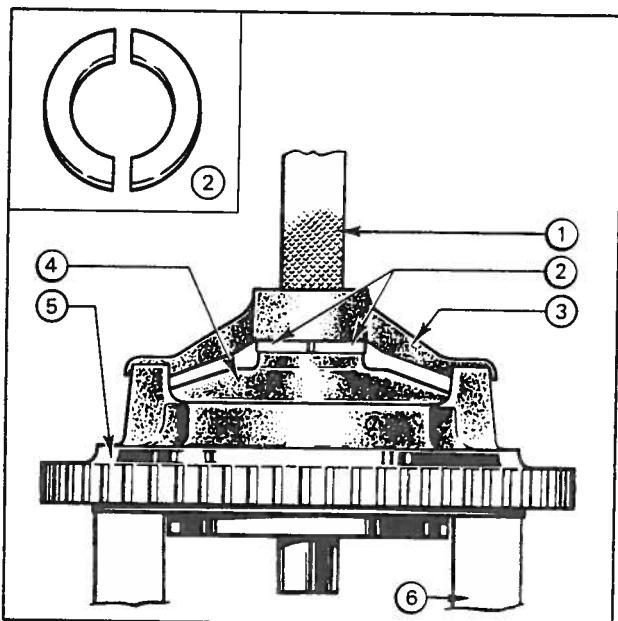

Fig. 12 Pressing out the shaft and rotor assembly
- (b) Support the pump body on a suitable press, as shown in Fig. 12, making sure that the jacking screws are clear of the support facing.